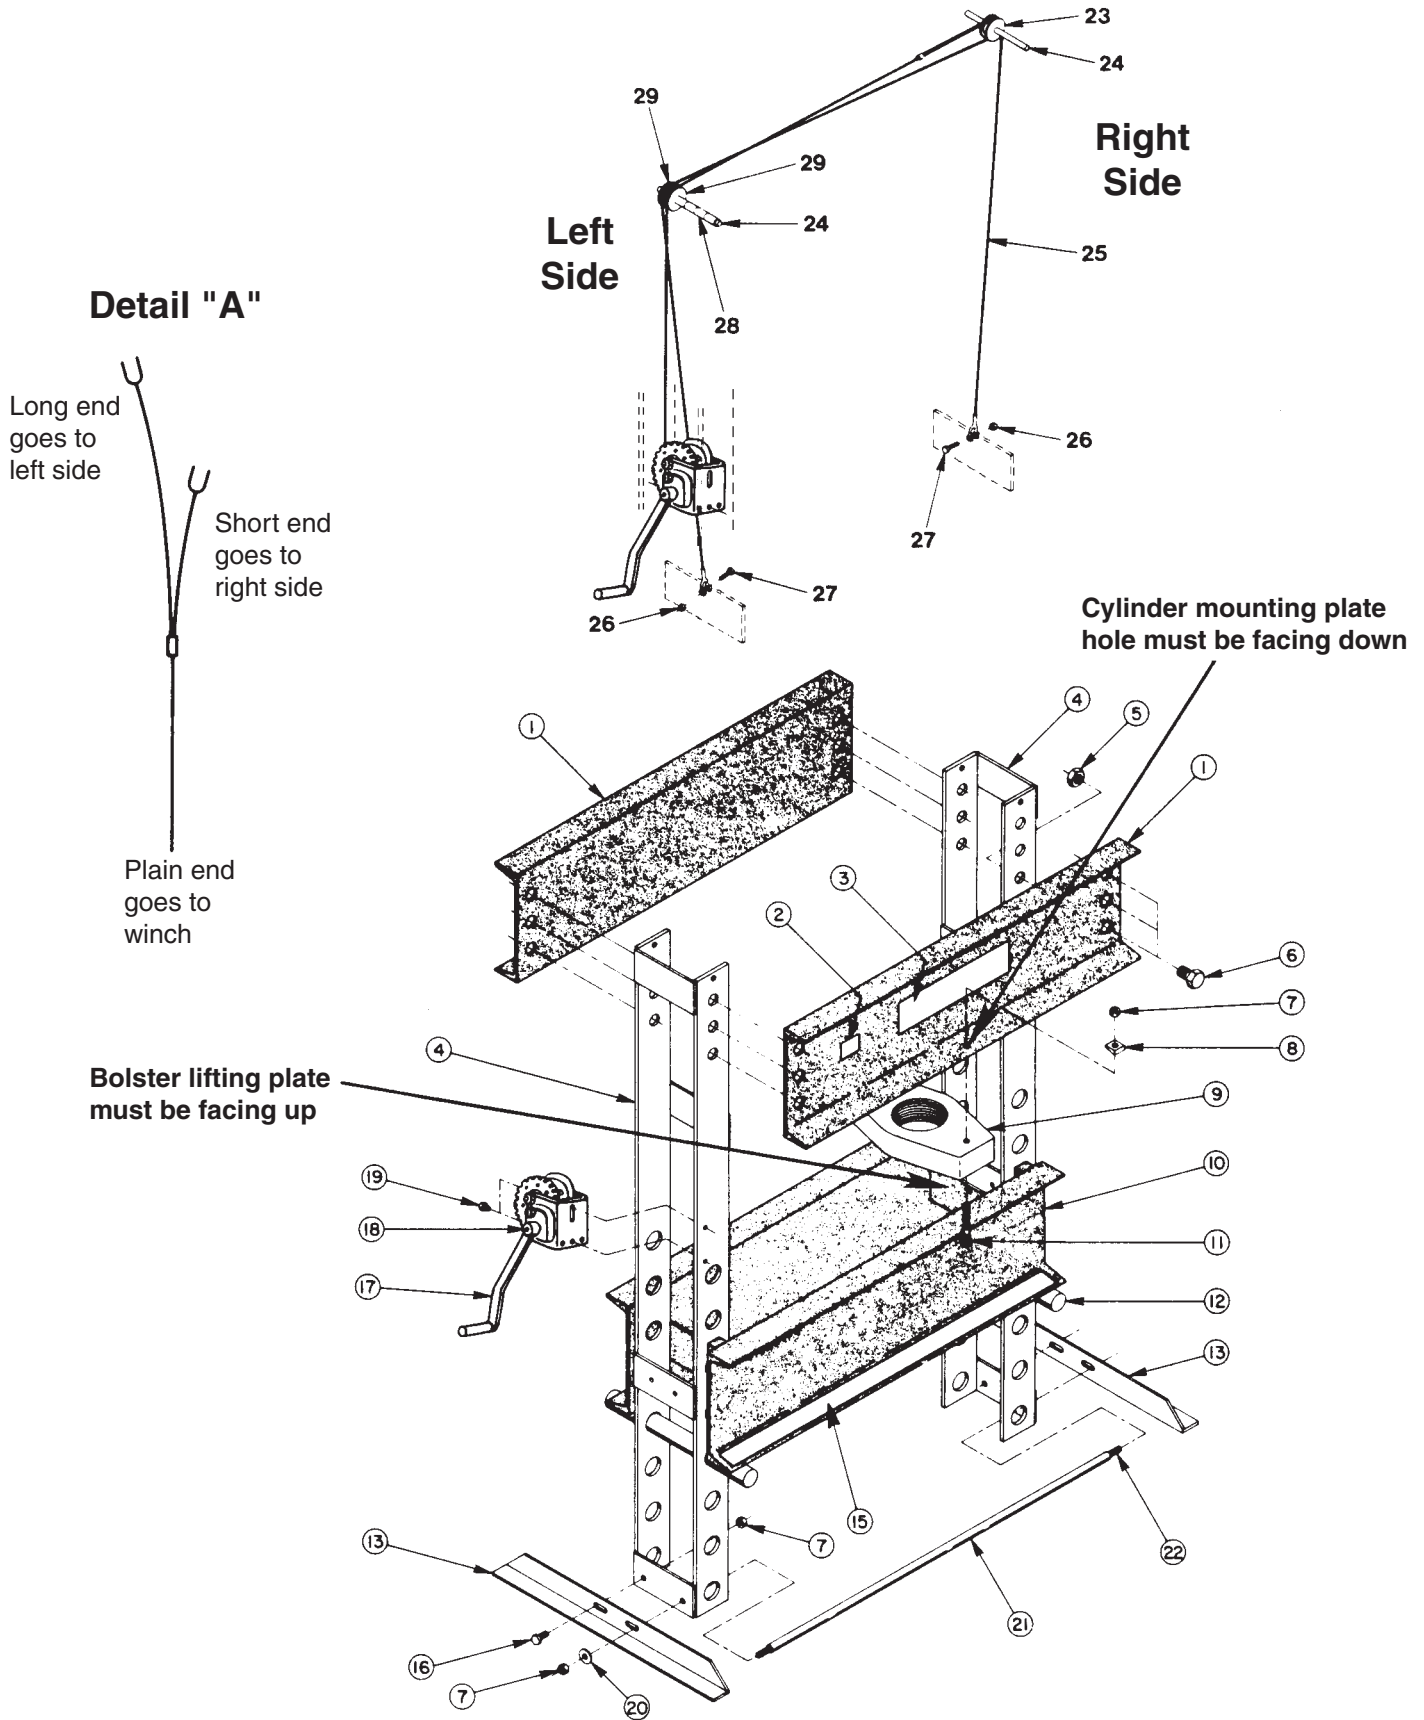

FIGURE 1
(Item numbers refer to Figure 1)
8. Bring end of cable without a clevis down left side and attach to winch. See Figure 1, Detail "A".
**NOTE: Place beveled washers on top of bottom lip of upper bolster. Larger dimension of beveled washer is positioned to outside of bolster to give a level surface for tightening hex nuts. See Figure 1.**